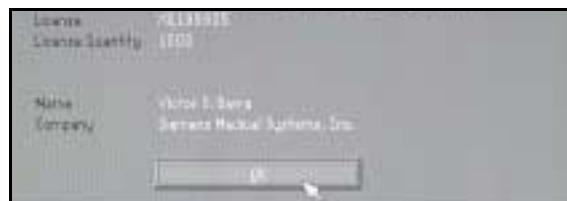

Figure 15-17 Norton Ghost menu
1. At X:\> prompt, type **ghost** and press <*Enter*> to bring up Norton Ghost menu (see Figure 15-17).